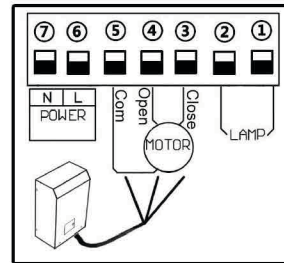

Figure 10
7.2. Connect to sliding gate motor (Fig 10)